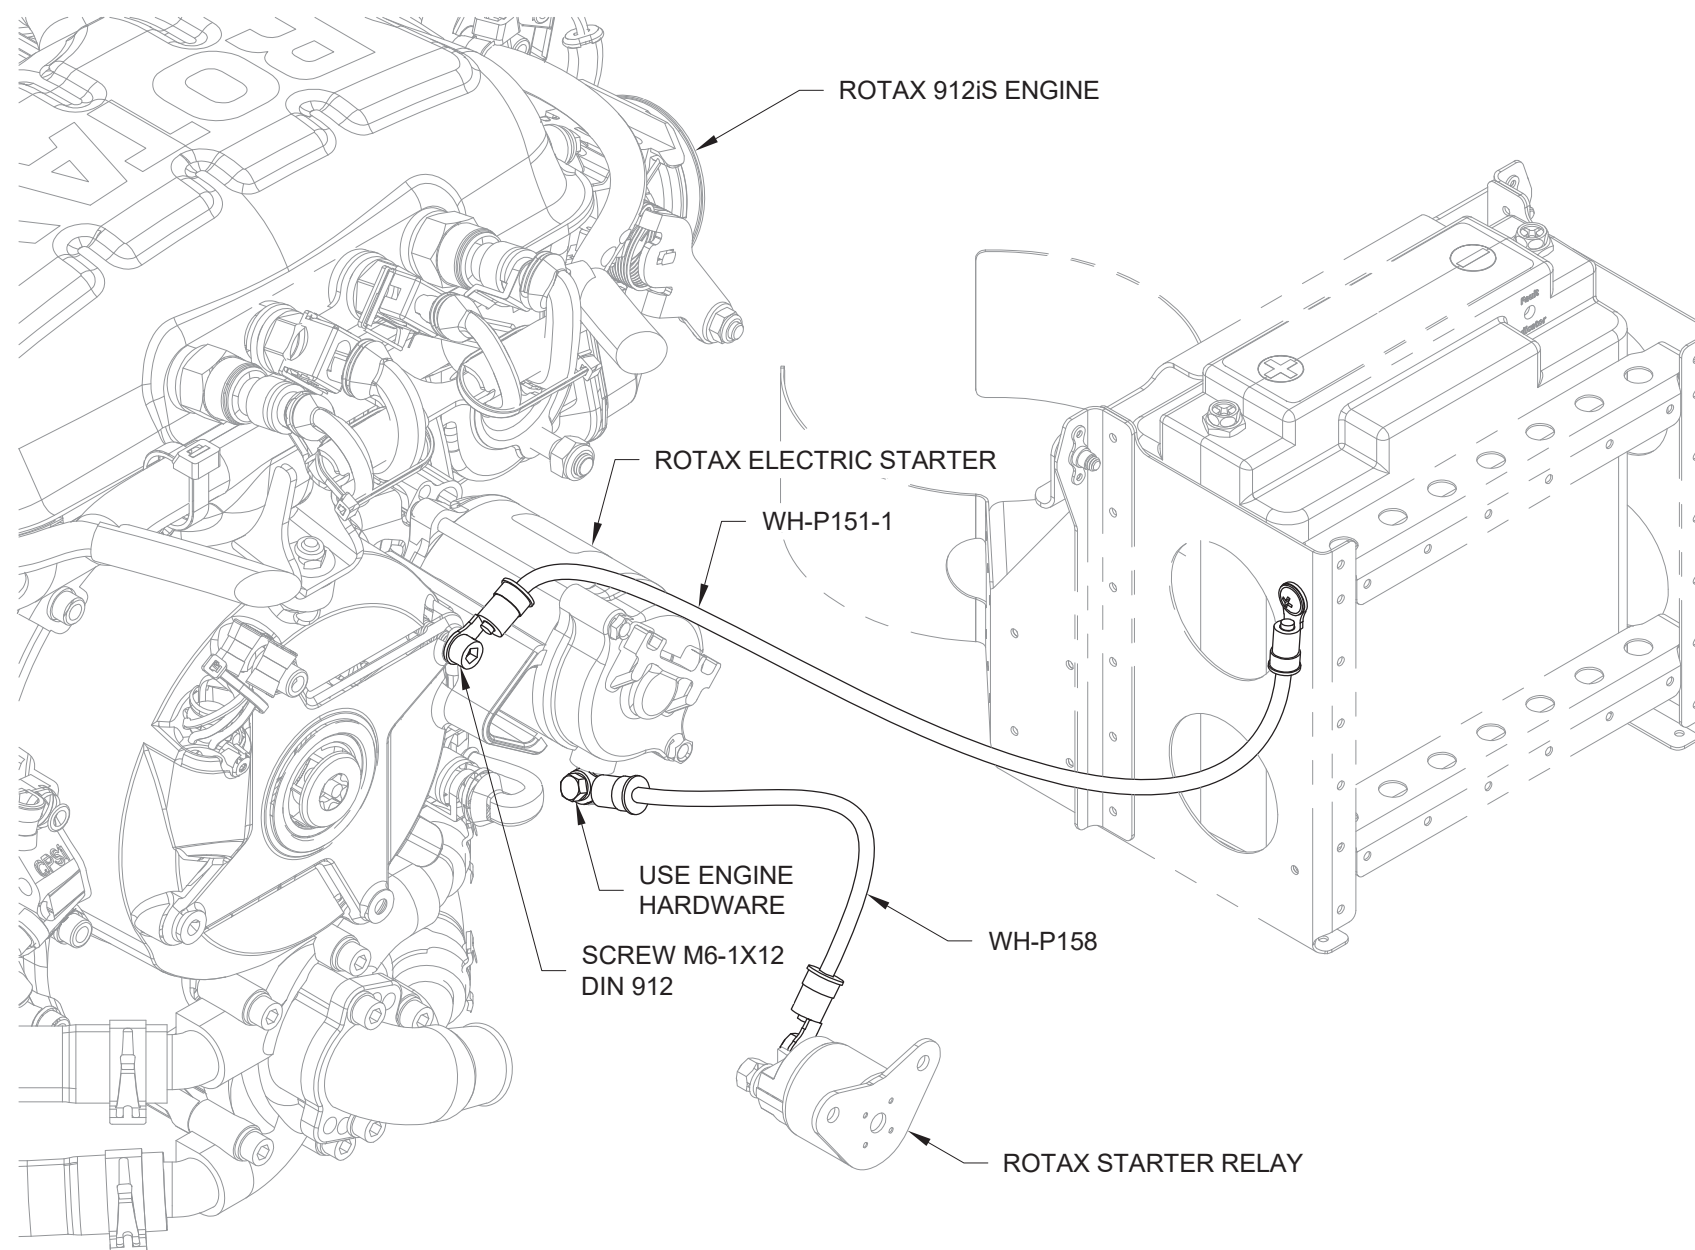

FIGURE 1: CONNECTING THE STARTER & GROUNDING THE ENGINE
Step 2: Connect the WH-P151-1 to the aft side of the ROTAX 912iS Engine (i.e. the engine generator) as shown in Figures 1 and 2.
Cut "Gnd Starter Rel" wire where it exits the wrap (Item 7 in Figure 1 on Page 46iS-07). Do not leave extra length as shown in Figure 3. Apply heat shrink.
Step 4: Connect the spade terminal of the white "Conn Starter Rel SW" wire (Item 8 in Figure 1 on Page 46iS-07) to the lower center terminal on the ROTAX Starter Relay as shown in Figure 3.